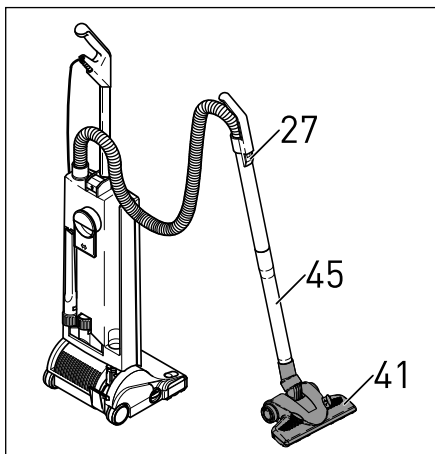

Figure 6
To vacuum walls, under beds, or higher-reach areas, etc., the SEBO ESSENTIAL G can be fitted with an additional straight tube (45) and the wall and floor brush (41). The machine will then perform as a canister vacuum **(as shown in figure 6)**.